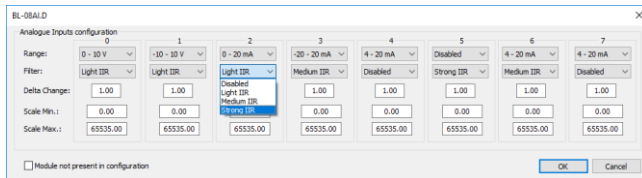

Figure 12
- **Filter:** select filter type for each channel in dropdown menu. See Figure 12